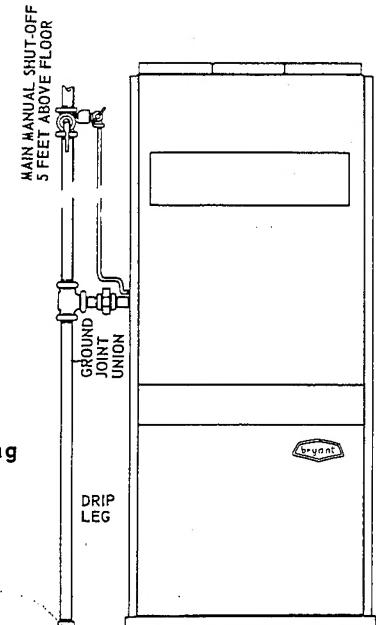

Figure 5 – Gas Piping
3. Install the main manual gas shut-off valve in the supply line five feet above the floor. Install the valve (supplied) so that the pilot manual cock is on the inlet side of the valve. (See Figure 5.)
Sizes 50, 80, 100 & 125 using natural gas are equipped with a factory-installed combination pressure regulator and main shut off - pilot supply shut off valve. This control is inside the furnace cabinet. A separate manual shut-off valve is not supplied with these furnaces. Consult local codes regarding the need for placing a separate shut-off valve outside the furnace cabinet as shown in Figure 5.